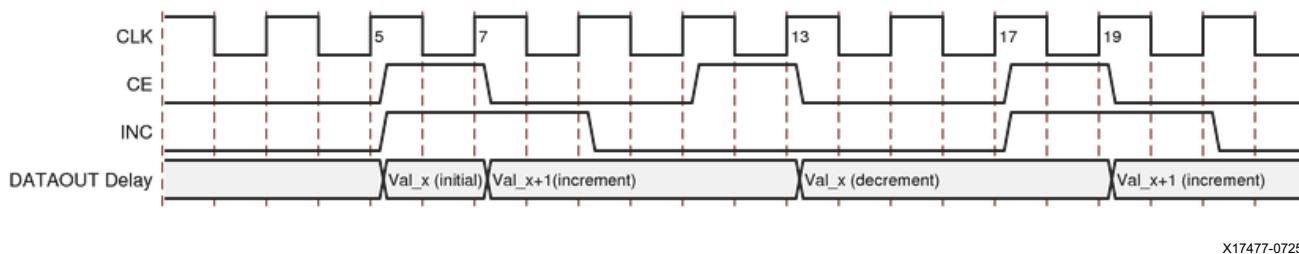

Figure 2-34: Variable Mode, UPDATE\_MODE = ASYNC
The DELAY\_TYPE attribute set to VARIABLE selects the variable tap delay line (Table 2-13). In VARIABLE mode, the CE and INC pins are used to manually increment and decrement the delay line tap per tap (INC/DEC increments or decrements one tap at a time). The tap delay increments by setting CE = 1 and INC = 1, or decrements by CE = 1 and INC = 0. The increment/decrement operation depends on the UPDATE\_MODE attribute (see Figure 2-34). The RXTX\_BITSLICE.EN\_VTC pin should be held Low during the delay change command to ensure that any automatic adjustments are stopped.
1. Value depends upon the UPDATE\_MODE attribute. See Figure 2-34.
Notes on Figure 2-34: